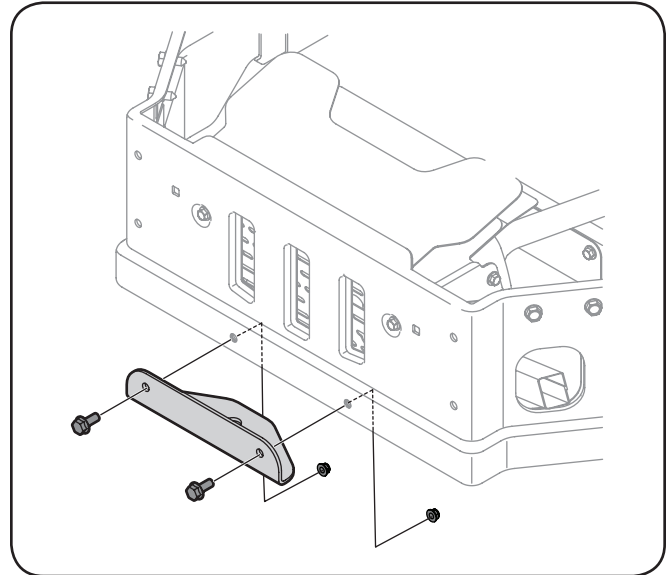

Figure 3-10
1. Remove the hex flange screws and flange lock nuts that secure the hitch bracket to the bumper. See Figure 3-10.